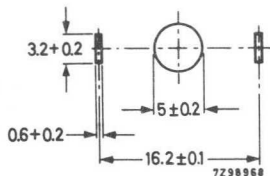

Fig. 3. Mounting holes for potentiometers with twist tags.
- Fig. 3 for potentiometers with twist tags. The potentiometers can be fixed by twisting the tags.